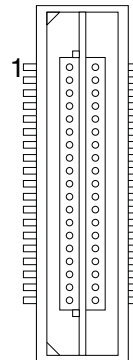

Figure A-4 AMP Mictor connector
Table A-4 shows the pinout of the Trace connector for the CM946E-S and CM966E-S. This is also the first (A) of two Trace connectors for the CM926EJ-S, CM1026EJ-S, and CM1136JF-S. Where the signal names differ from the ones used on the CM946E-S and CM966E-S, the names for the CM926EJ-S, CM1026EJ-S, and CM1136JF-S are shown in parenthesis. See Figure A-4 on page A-11 for the Mictor connector pinout.
The logic analyzer connection is a high-density AMP Mictor connector. The connectors carries 32 signals and 2 clocks or qualifiers. Figure A-4 shows the connector and identification of pin 1.